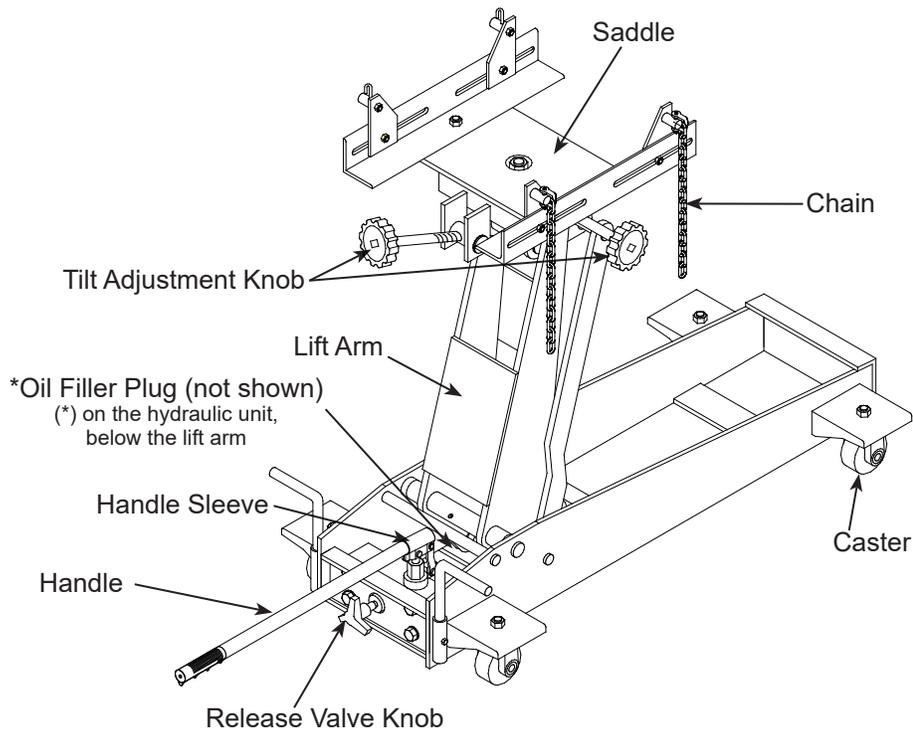

Figure 1- Typical Transmission Jack Components BH7210 shown)
1. Verify that the product and application are compatible, if in doubt call Blackhawk Automotive technical service (816) 891-6390.
3. To familiarize yourself with basic operation, locate and turn the release valve knob (see Fig 1):